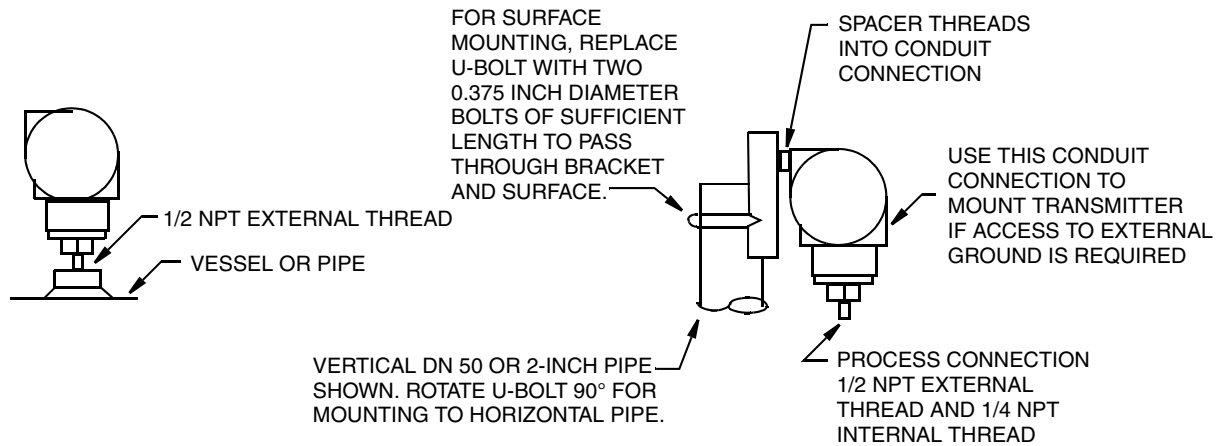

Figure 4. IAP10 and IGP10 Transmitter Mounting
The IAP10 and IGP10 transmitters with the 1/2 NPT external thread can be directly connected to the process or mounted to a vertical or horizontal pipe or a surface using the optional mounting set. See Figure 4.
2. Do not directly mount IGP10 transmitters with Span Limit Code G or H. Use the optional mounting set as shown in Figure 4.